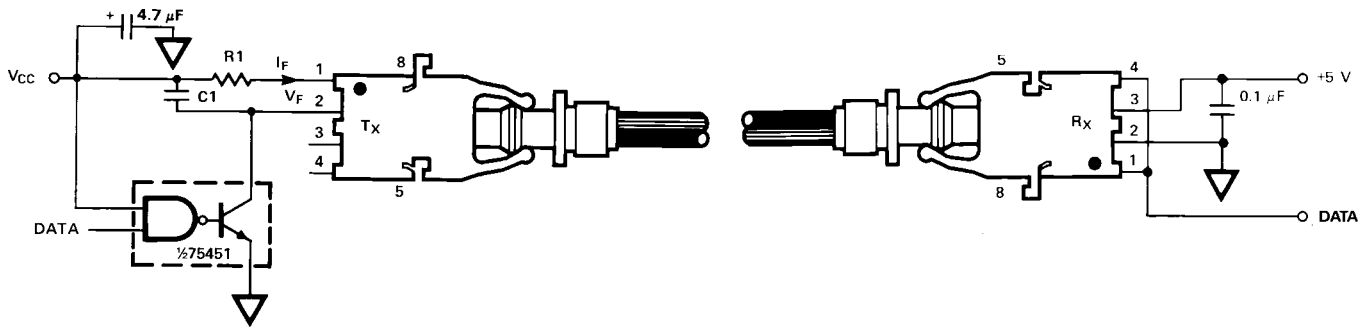

Figure 11. Required 1 MBd interface circuit
The HFBR-25X2 receiver can not be overdriven when using the required interface circuit shown in Figure 11.
- The LED drive circuit of Figure 11 is required for 1 MBd operation of the HFBR-25X2/25X4.